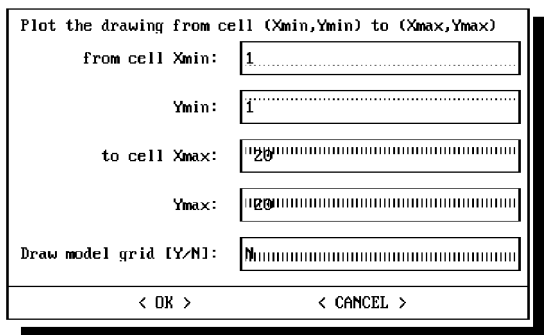

Fig. 6.17: Specification of the plot range
The default plot range is the entire model area. The plot range is defined by the starting and ending column (X) and row (Y) indices in a dialog box (Fig. 6.17). The coordinate system used by the grid editor (see Fig. 4.4) will be used for specifying the indices.